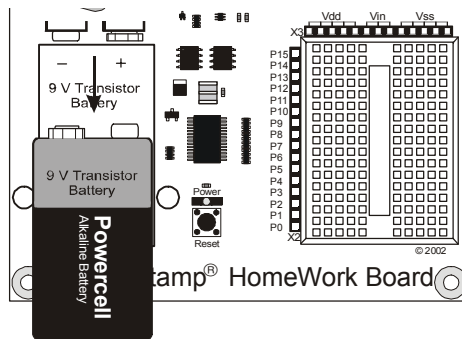

Figure 1-49
- ✓ If you are using the BASIC Stamp HomeWork Board, disconnect the battery as shown in Figure 1-49.